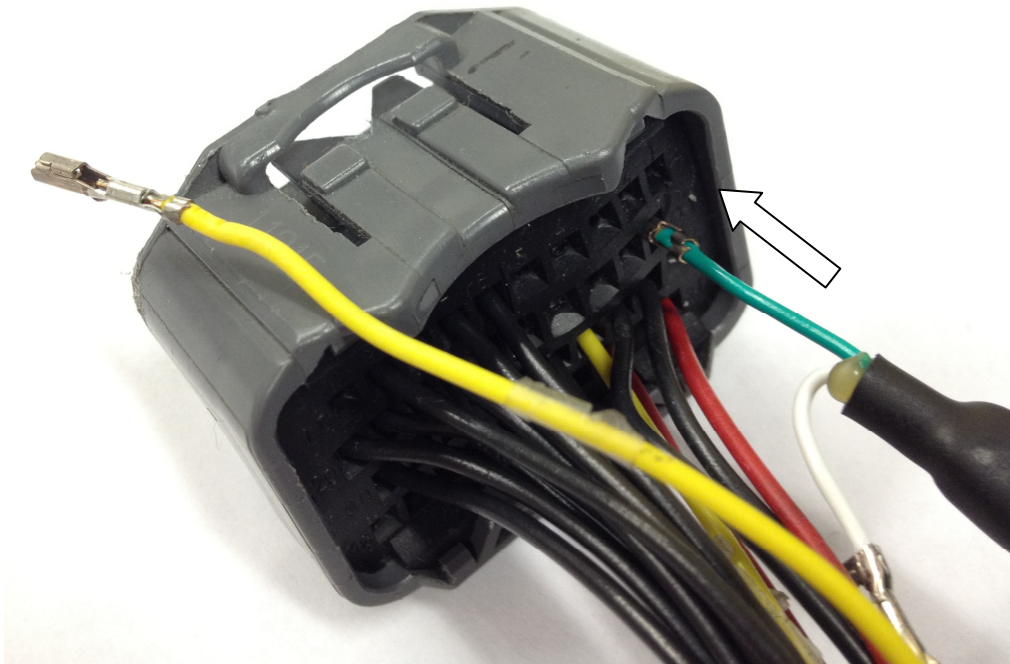

Figure 7: Pushing pin into ECU plug
- To install the harness into the ECU plug, align the CANL and CANH pins into the receptacle of the plug and push in until it clicks as shown in figure 7: